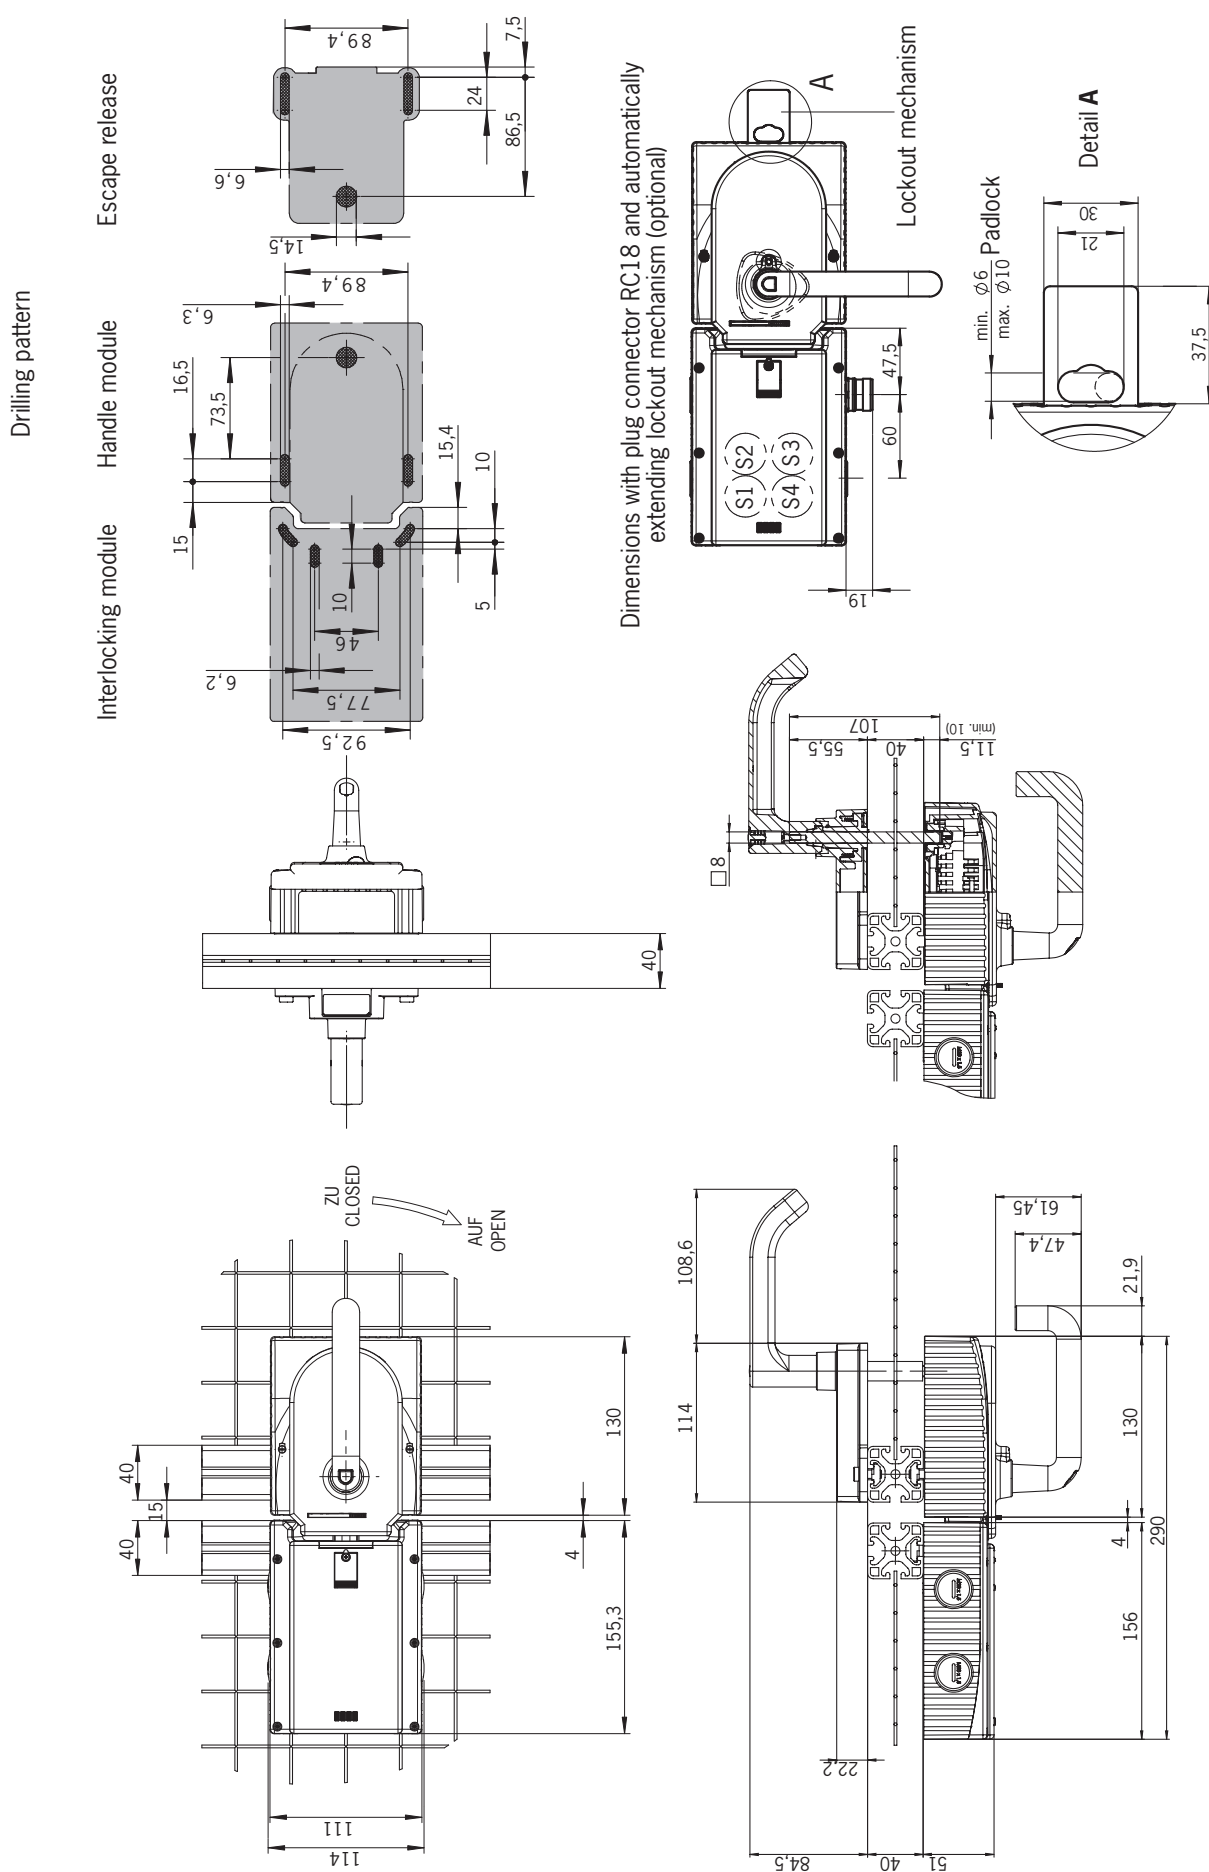
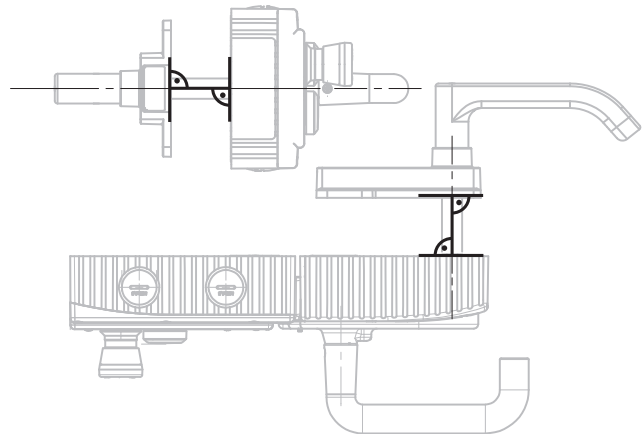
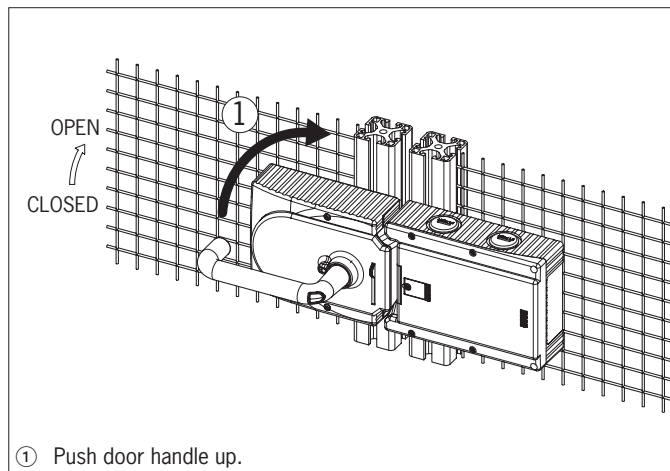
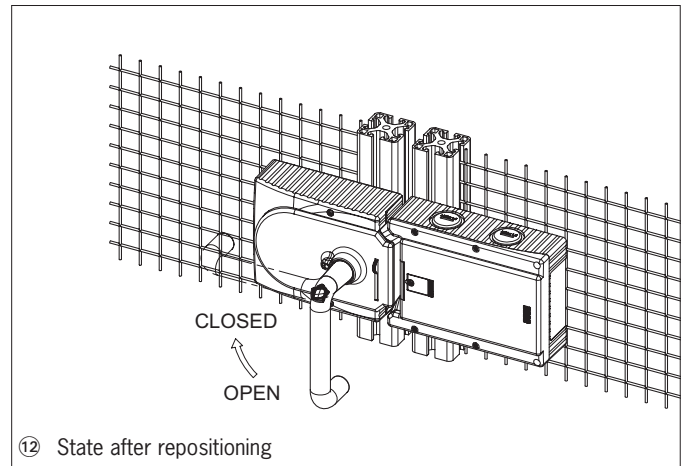

Fig. 4: Dimension drawing MGB fitted, without optional mounting plates
Fig. 7: Installation example for door hinged on the right (general view)
Fig. 8: Changing actuating direction, step ①
Fig. 13: Changing actuating direction, final state
- Adjust escape release axis at right angles to the handle module. See Fig. 4 and Fig. 7.
For mounting steps, see Fig. 7 and Fig. 8 to Fig. 13.
- › The system is mounted the other way around for doors hinged on the left. In other words, the guard opens by pressing up the door handle (see Fig. 8). For this reason the actuating direction of the door handle must be changed (see Fig. 8 to Fig. 13).